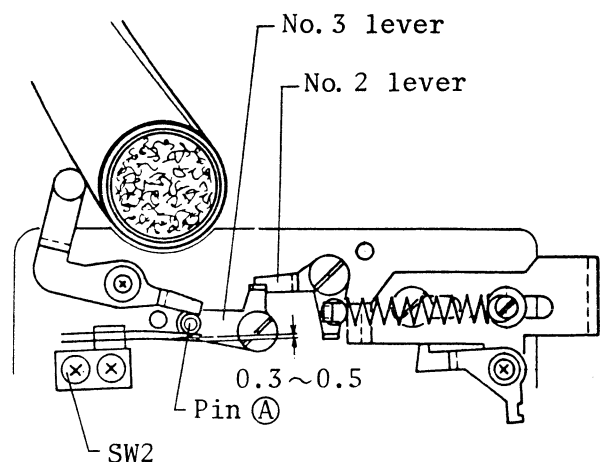

Fig.12
3. When the third lever is set with the second lever, lower contact of the SW2 switch must be pressed down 0.3mm to 0.5 mm by pin ① of the third lever as shown in Fig. 12.